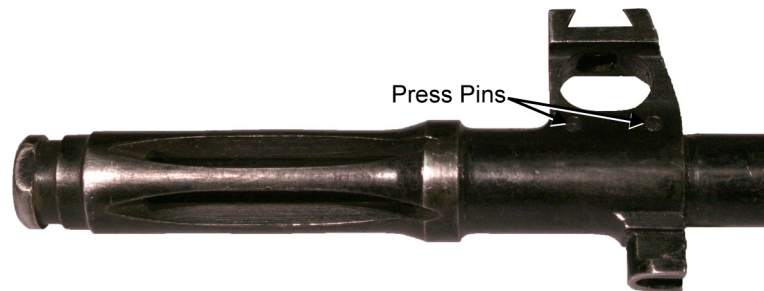

Figure 30. Press Pins Installed through the Flash Suppressor.
13. Slide the flash suppressor on the barrel, and secure with the two press pins. Refer to Figure 30.